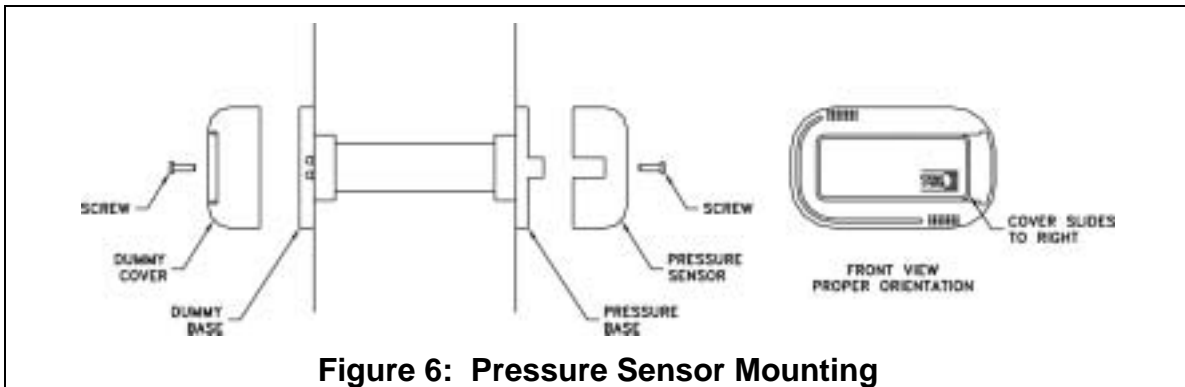

Figure 6: Pressure Sensor Mounting
- 7) From the side of the wall the sensor will be mounted, slide the sensor tube through the wall. Slide the dummy base over the end of the tube. Screw the pressure sensor base and dummy base to the wall (Figure 6).
- 10) Install and screw the pressure sensor and dummy cover onto the bases. Slide covers to the left to hide the sensor. Finished installation should look as shown in Figure 6.